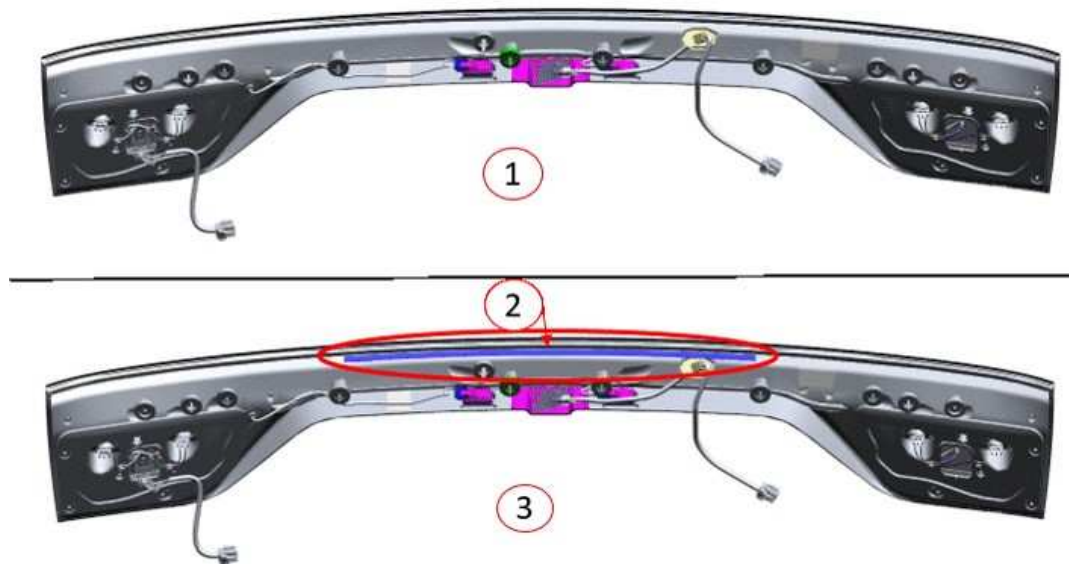

Fig. 1
- c. Install the foam gasket on the applique (Fig. 1) .